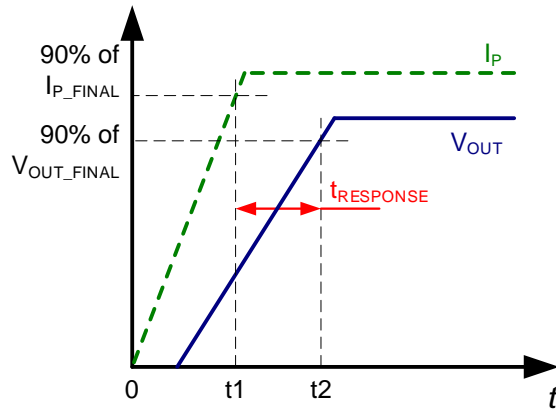

Figure 8: Response Time ($t_{RESPONSE}$)
2. t_2 : V_{OUT} reaches 90% of its final value, as it corresponds to the applied primary current (see Figure 8).
| | | Updated Figure 8 | 20 |